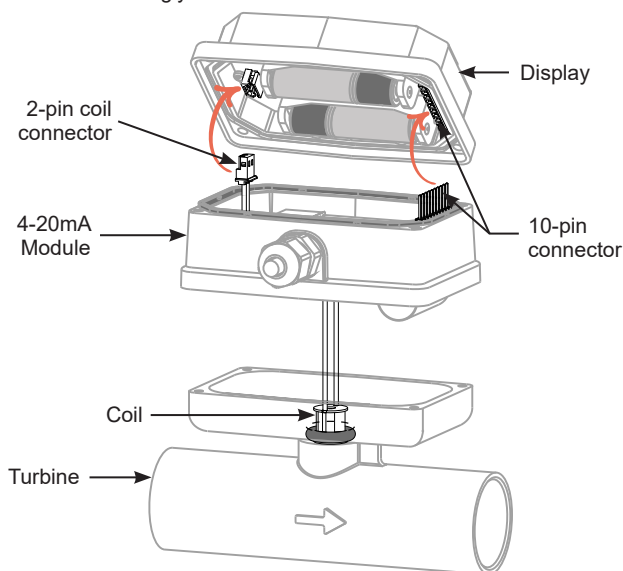

Figure 2
3. Connect the 4-20mA Module to the 10-pin connector located on the back side of the computer electronics (see Figure 2).
4. Reconnect the coil connector to the 2-pin terminal block on the other end of the computer backside. Once the cables are installed on the display, the housing of the display can be placed on top of the 4-20mA module (see Figure 2).